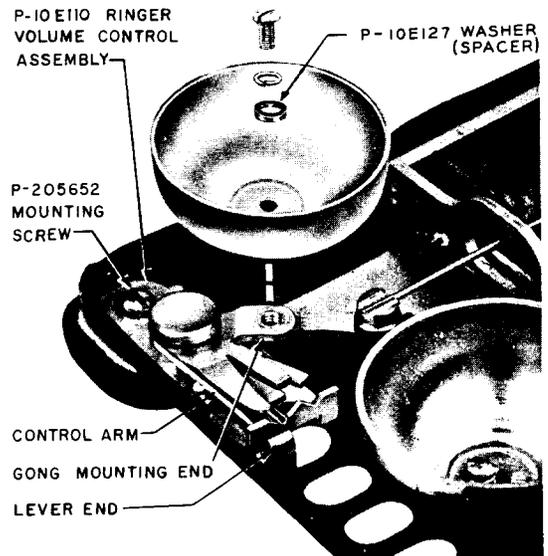

Fig. 10 - Ringer Volume Control Assembly
3.11 Ringer volume is varied by control arm lever which protrudes through ringer port in base of set. Left ringer gong is mounted on gong end of control arm and may be moved to three positions (low, medium, and high) by operation of volume control lever (Fig. 10 and 11).